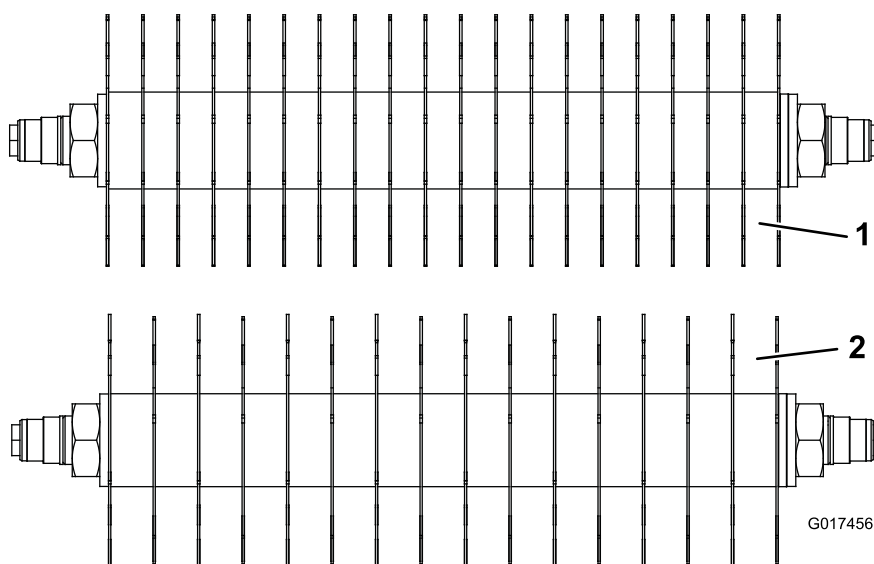

Figure 14
(19) new spacers, part no. 93-3092 and an additional (4) carbide blades, part no. 106-8625 or an additional (4) regular blades, part no. 93-3038-03 (Figure 14).